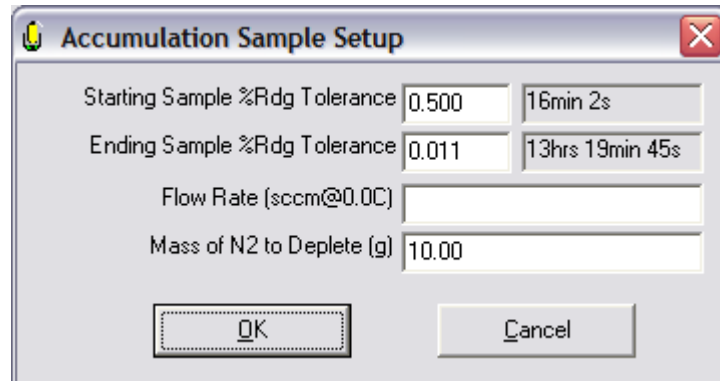

Figure 108. Accumulation Sample Setup window
- 9 Start an accumulation: see Section 5.1.5.2.3 for information on using the “Traffic Light” icon on the GFS Control Toolbar within the GFS Control Panel for starting an accumulation. Once the icon has been selected, the “Accumulation Sample Setup” window (see Figure 108) will appear. The flow rate from the previous step will already be present. Enter a starting and ending sample tolerance as described in **Table 43** and select “OK”.